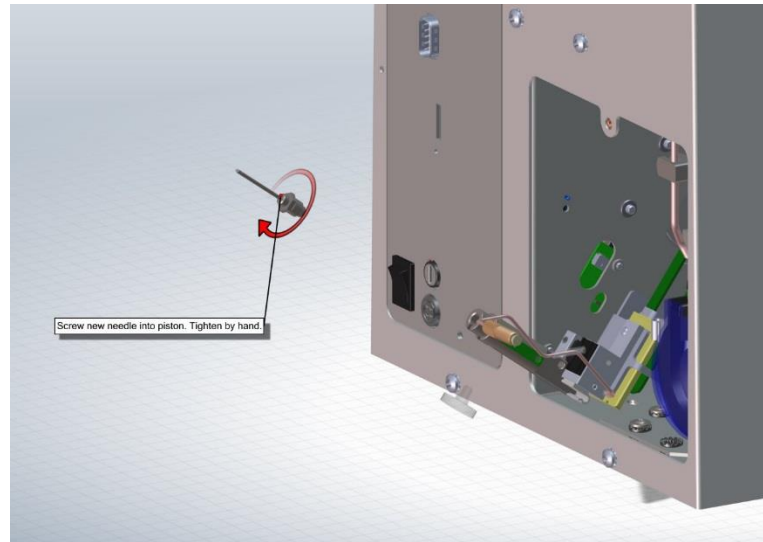

Figure 12
10. Screw the replacement Needle Tip into the Needle Piston. Tighten as much as possible by hand. Tighten again with the adjustable wrench by rotating it another half-turn counterclockwise (180°) shown below in Figure 12.